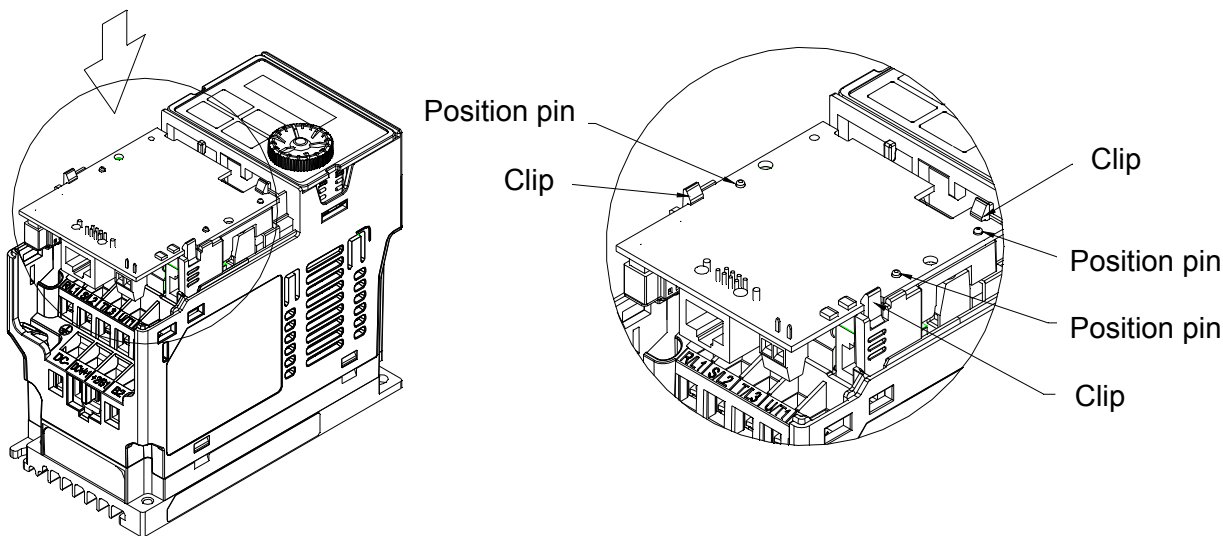

Fig. 8-4
- After the wiring is completed, loosen the communication card of the front mounting, and reverse-mounted, aim the three holes at the positioning pin, press the pin to clip the holes with the communication card. (shown in Fig. 8-4)